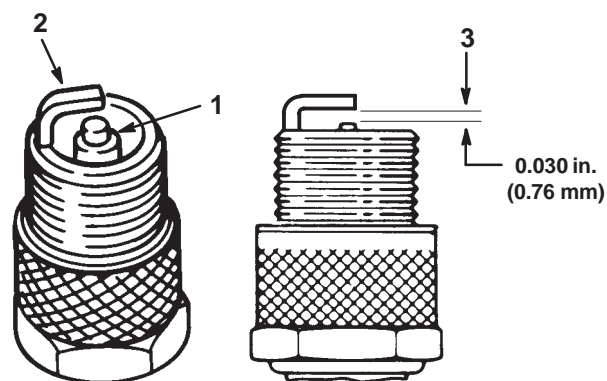

Figure 32
1. Look at the center of the spark plug(s) (Fig. 32). If you see light brown or gray on the insulator, the engine is operating properly. A black coating on the insulator usually means the air cleaner is dirty.
2. Check the gap between the center and side electrodes (Fig. 32). Bend the side electrode (Fig. 32) if the gap is not correct.